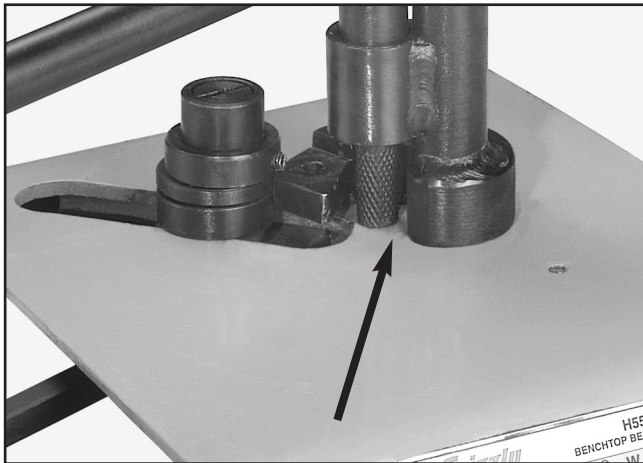

Figure 13. Workpiece placement for scroll.
2. Slide the workpiece between the offset shaft and the hub die assembly (**Figure 13**).